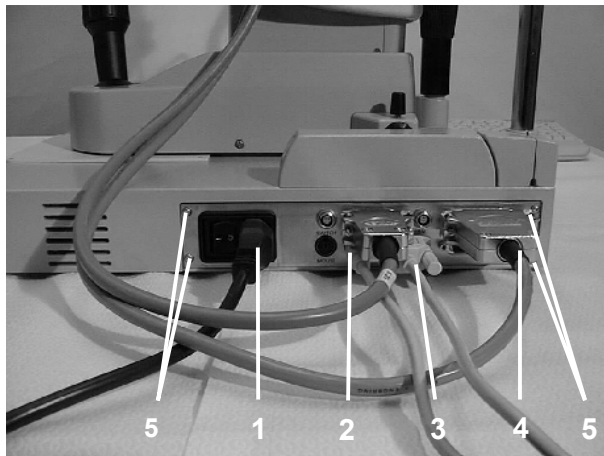
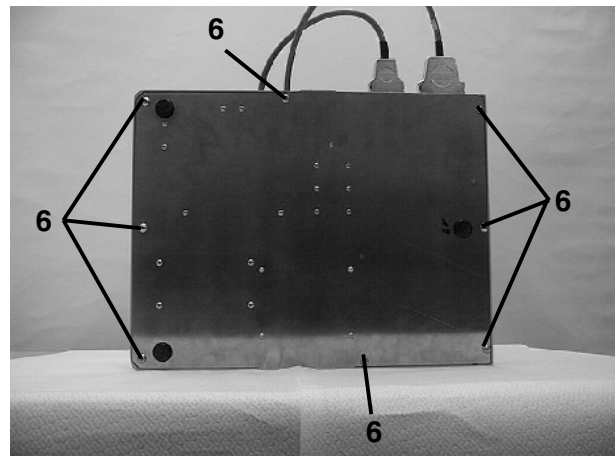

Fig. 11a
Fig. 11b
- Disconnect plug-in connections ((1, 2, 3 and 4) Fig. 11a) and remove four screws ((5) Fig. 11a).
- Remove eight screws ((6) Fig. 11b).
- Screw screws ((6) Fig.11b) and ((5) Fig. 11a) back in again.